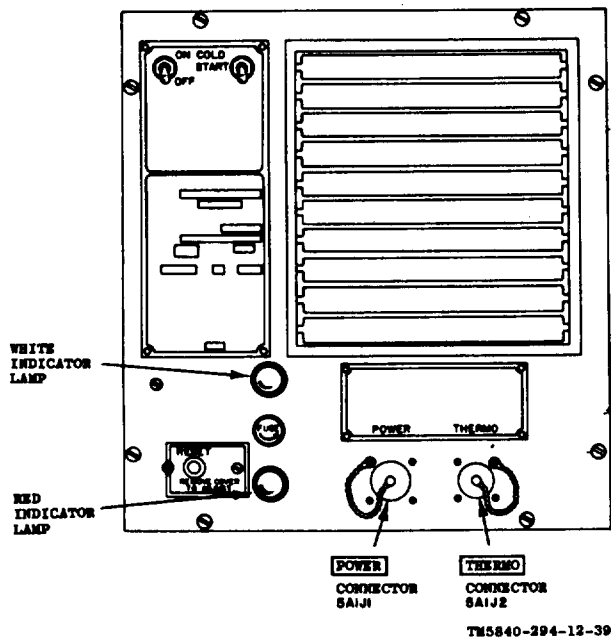

Figure 3-8. Heater, Hunter model UH-48, type II (heater A).
a. Heater A (fig. 3-8)
- (2) Set ON-OFF switch (fig. 3-8 or 3-9) to ON. White indicator lamp on heater control panel (heater A only) will light. (During operation of heater, white indicator lamp will go on and off as heater passes through on and off cycles.) If a malfunction occurs, white indicator lamp will go out, red indicator lamp (heater A only) will light, and heater will stop operating. In case of a malfunction, refer to heater instruction manual.